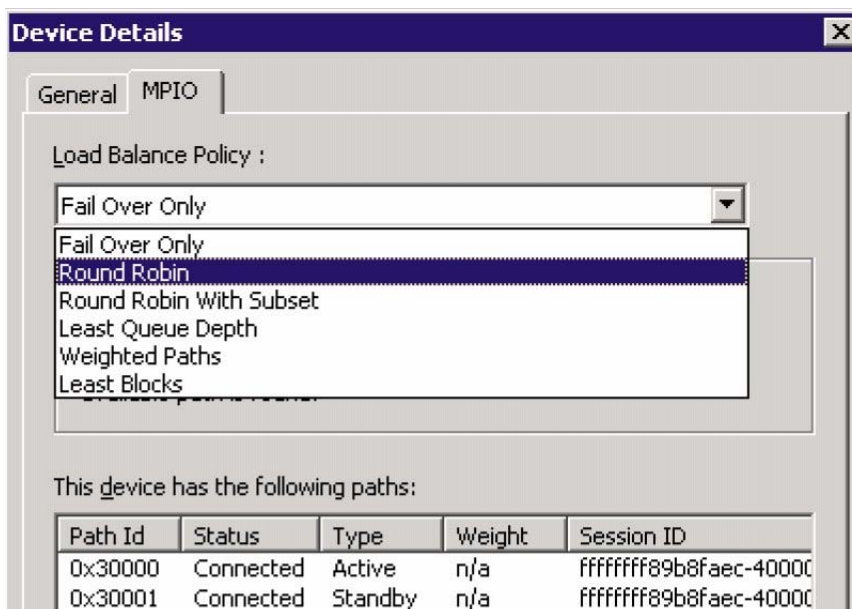

Figure 38 Selecting Load Balance Policy
6. Select a load balance policy from the list (Figure 38).